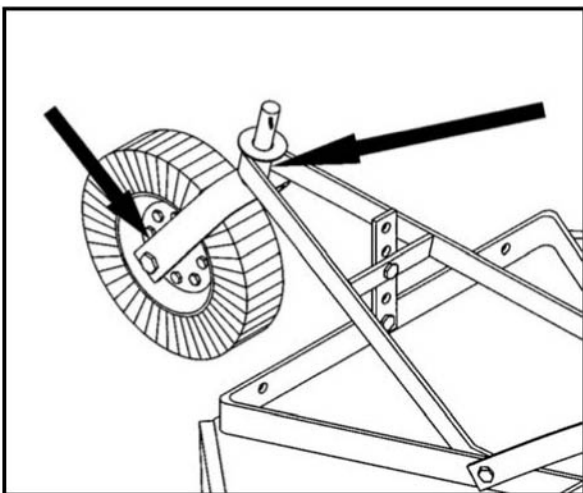

Figure 13
*Tail wheel fork (See Figure 13, page 17).